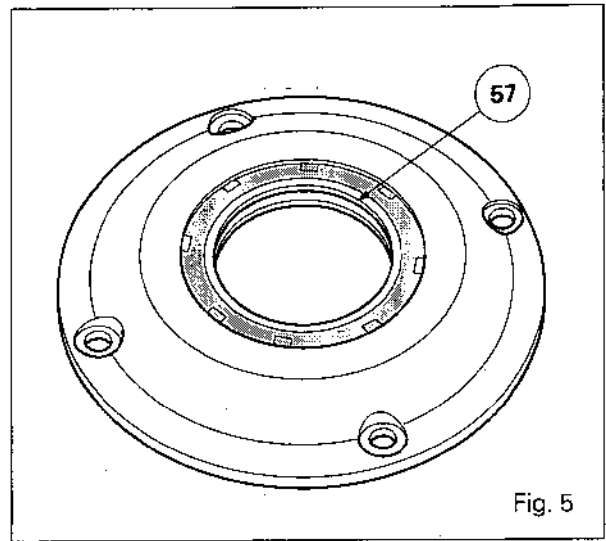

Fig. 5
**Clutch - Spring loaded****A. Removal, installation of the gasket (57) and of the O'ring (1)****Removal**
2. Fit protector No. 3378052M1 (see § G) on shaft (7). Remove screws (54). Remove cover (9) and O'ring (1).
3. Extract oil seal (57) (Fig. 5).